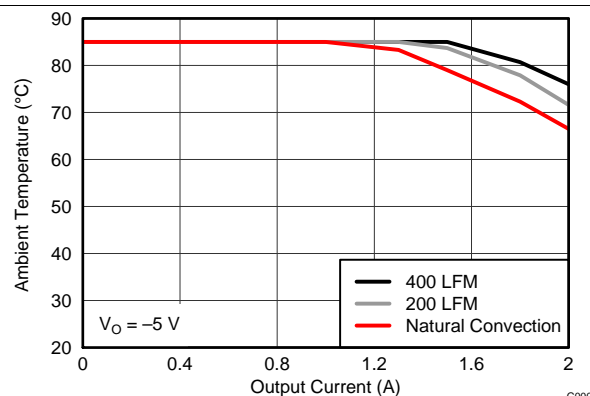
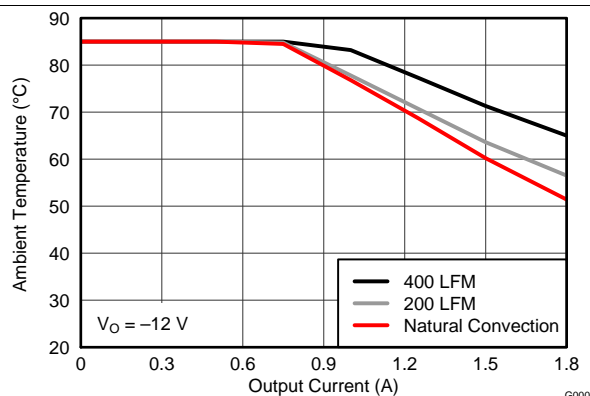

Figure 22. Safe Operating Area
Figure 23. Safe Operating Area
- (3) The temperature derating curves represent the conditions at which internal components are at or below the manufacturer's maximum operating temperatures. Derating limits apply to devices soldered directly to a 100 mm × 100 mm, 4-layer, double-sided PCB with 1 oz. copper. Applies to Figure 22, Figure 23, and Figure 24.